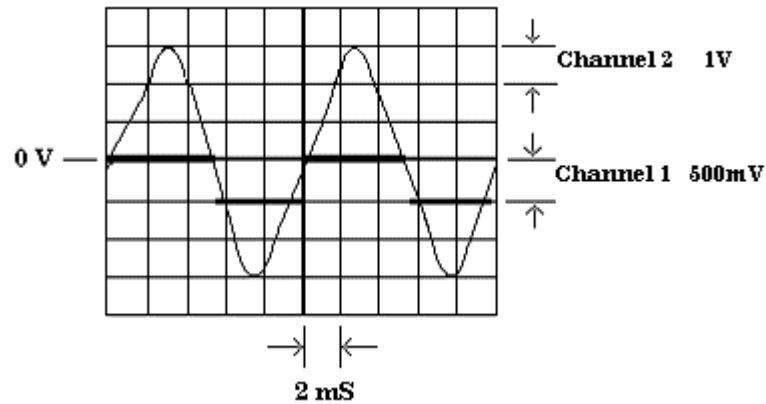

Figure 3. Remote trigger level - zero.
(6) Execute TI command string PF4G6S1S3A379+000*B37+000*R.
(7) Adjust oscilloscope **Vertical 1** control so that the top of TI marker output waveform on channel 1 (fig. 3) just barely intersects both positive and negative slopes of sine wave on channel 2 (fig. 3). If this intersection does not occur at $0\text{ V} \pm 35\text{ mV}$ on sine wave, as shown in fig. 3, perform **b** below.